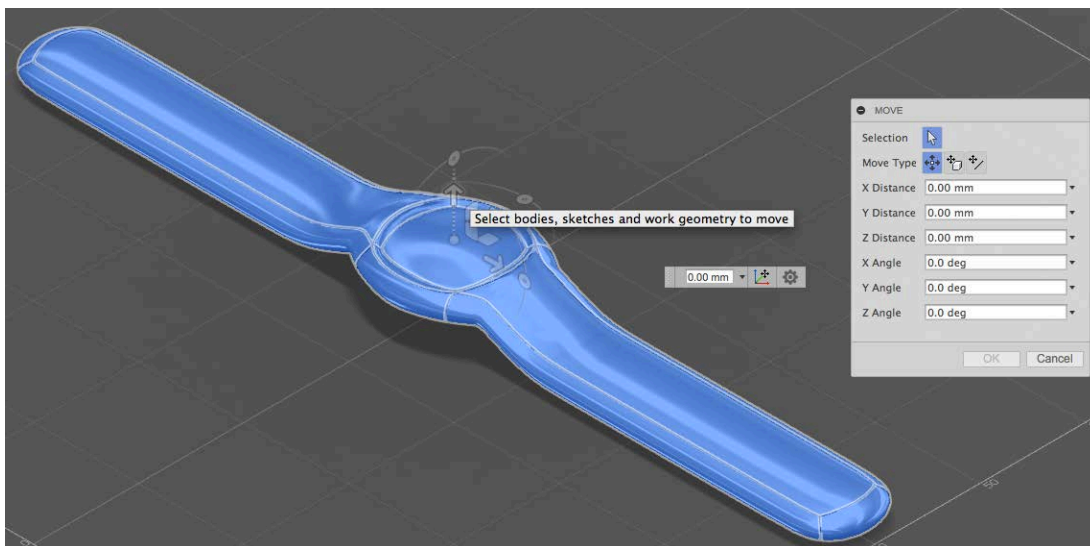

Fig. W09
10. Go to Modify>Move and make a window with the mouse that covers the entire watch body, then move it up about 30mm (Fig. W09). **\*\*Note: Moving the body up will allow you to draw a sketch on the top plane and select it without having the watch in the way.**